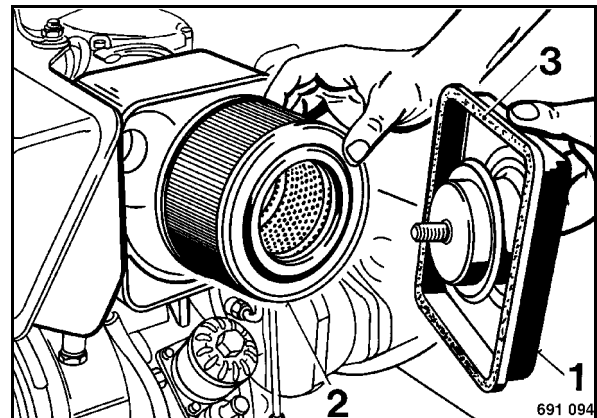

Fig. 81
- Insert the air filter (2) (Fig. 81).
- Check the sealing face (3) on the housing.
- Attach the cover (1) (Fig. 81) and tighten it with the wing screws.